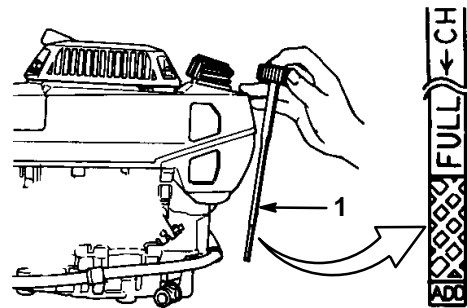

Figure 5
Before each use, ensure that the oil level is between the FULL and ADD marks on the dipstick (Fig. 5). Add oil if the level is low.
1. Position the mower on a level surface and clean around the dipstick (Fig. 5).
- Remove the dipstick and check the level of the oil on the side of the dipstick with the FULL and ADD marks (Fig. 5).